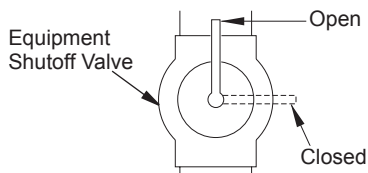

Figure 4 - Equipment Shutoff Valve
1. Close equipment shutoff valve (see Figure 4).
3. Close equipment shutoff valve (see Figure 4, page 4).